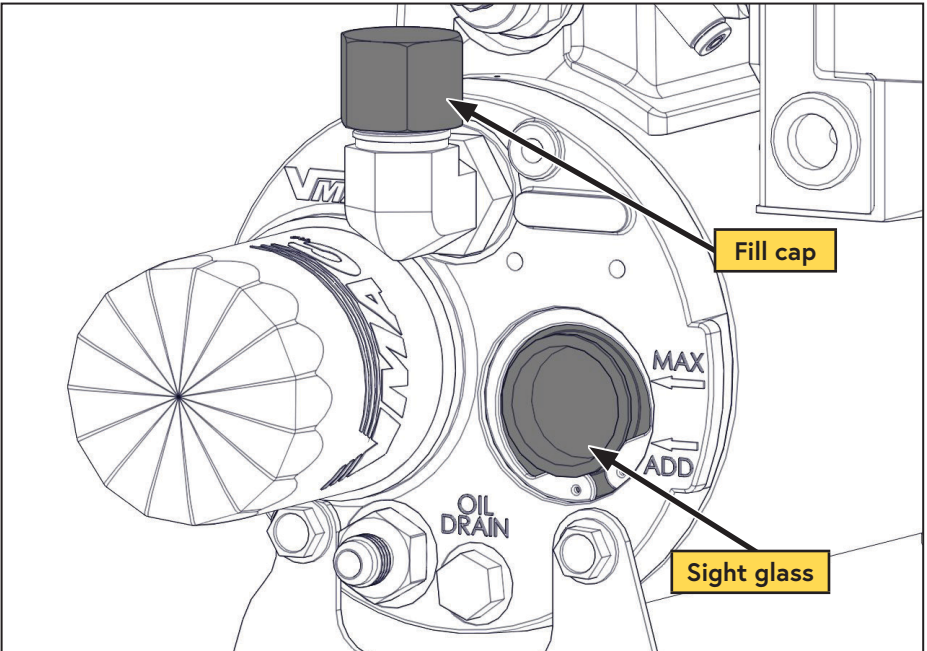

Figure 36 — Filling the WHASP Tank
- Remove the fill cap on the WHASP Tank (above the sight glass) (Figure 36).
- Using a funnel, pour oil into the tank until the oil level in the sight glass reaches the "MAX" line. The system capacity is 4 L (Figure 36).